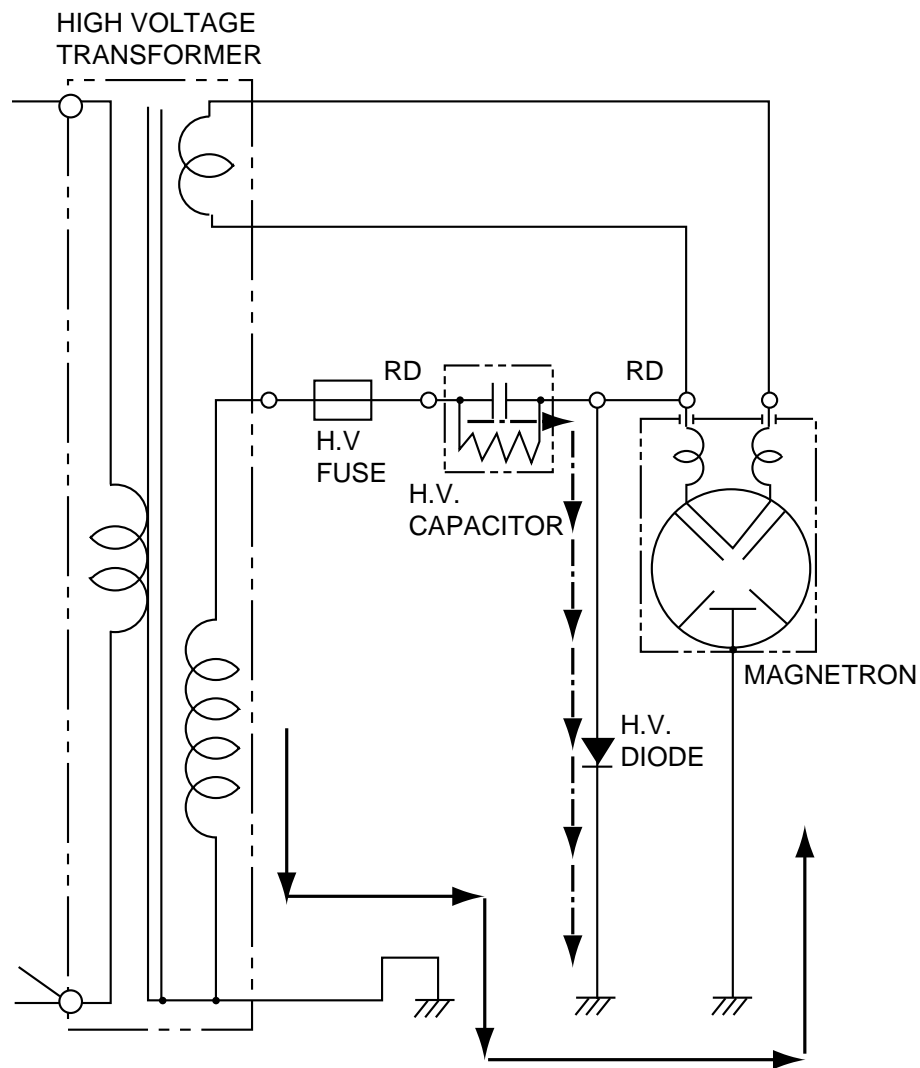

Fig.2
- A high voltage of 2000 Volts AC is generated in the secondary of high voltage transformer and this secondary voltage is increased by the action of the diode and the charging of the high voltage capacitor. This resultant D.C voltage is then applied to the anode of the magnetron. As shown in Fig. 2 the first half cycle of the high voltage produces in the high voltage transformer secondary charges the high voltage capacitor. Current flow is in the direction of the dotted-line during the second half cycle, the voltage produced by the transformer secondary, and the charge of the high voltage capacitor are combined and applied to the magnetron as shown by the solid line so that oscillations begins.